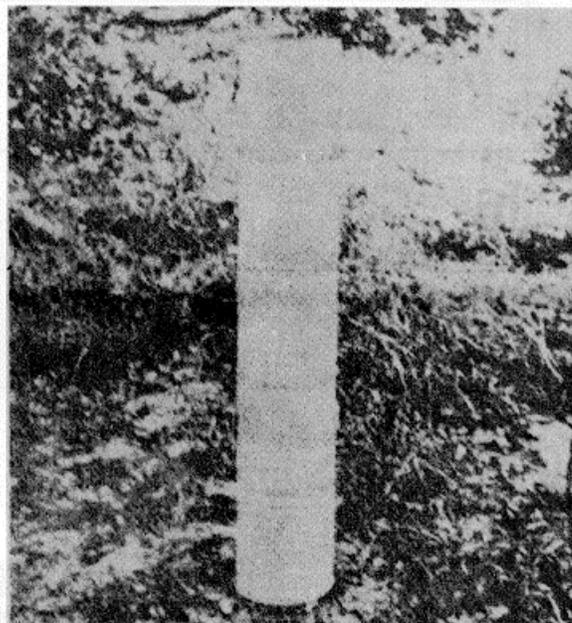
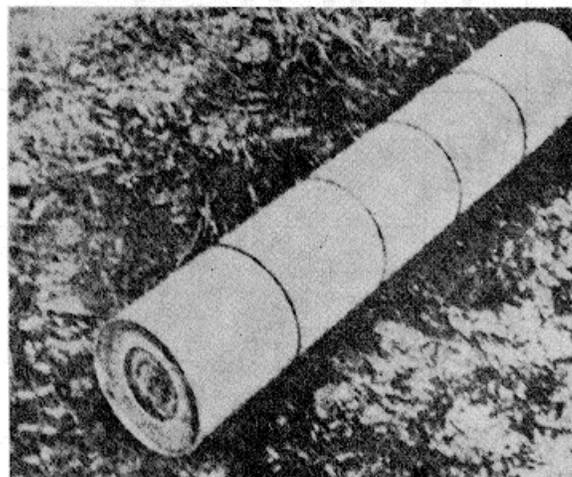

Figure 1. ABC-M5 smoke pots stacked vertically.
Figure 2. ABC-M5 smoke pots laid end to end.
c. Chain Ignition. A number of M1 or ABC-M5 smoke pots can be arranged to ignite in succession, thus providing smoke for a longer period than is possible using a single pot. To accomplish chain ignition, the pots can be placed in stacks (fig. 1) and the topmost pot in the stack ignited, or they can be laid on their sides (fig. 2) end to end and the pot with the exposed igniting device ignited. Prior to stacking, the outer covers must be removed from all pots so that the igniting devices are exposed. When M1 smoke pots are stacked vertically, supports must be provided for stability. The ABC-M5 smoke pot is especially designed for vertical stacking, and because the bottom of one pot fits snugly into the top of the one below it, no support is required. Whether pots are stacked vertically or laid on their sides, the heat generated by one burning pot in a series ignites the